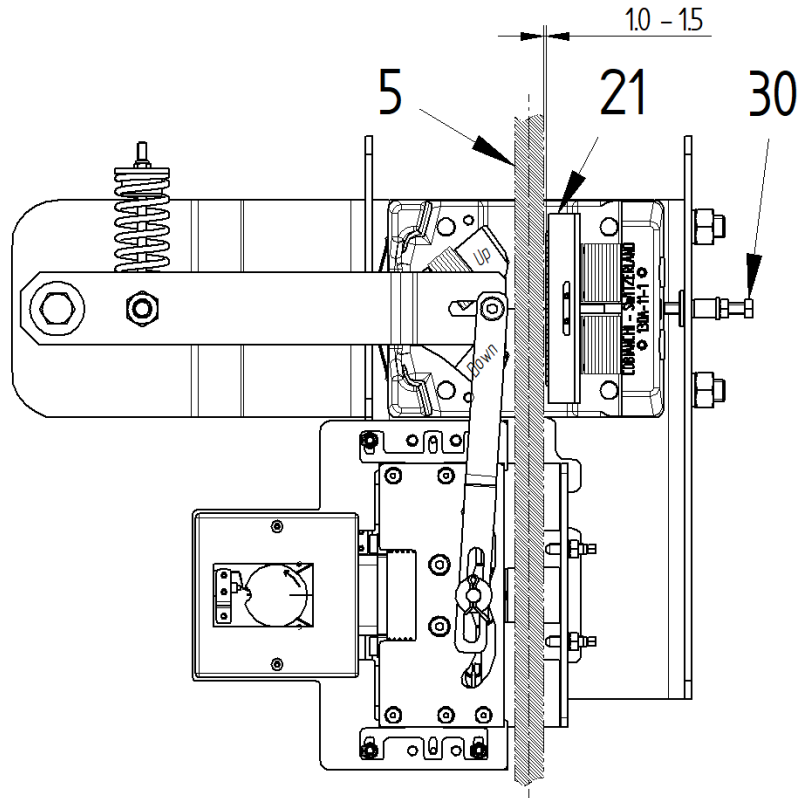

Figure 17: Side position adjustment using the adjustment screw (item 30): easy release mechanism (item 21) – guide rail (item 5) 1.0 – 1.5 mm
To ensure that the gaps between the move-in tothing on the brake elements on the safety gear heads and the guide rail (item 5) on the double-acting safety gear can be set identically at the top and the bottom (to prevent unwanted release), we recommend undoing both M12 screws from the retaining plates for lever (item 27) and, in the next step, undoing the adjustment screw (item 30) until the top move-in tothing and bottom move-in tothing are positioned on the guide rail (item 5) according to figure 12 and then re-tightening both M12 screws on the retaining plates for lever (item 27). If the required result cannot be obtained using this procedure, both headless screws in the torsion spring system (item 13) must also be undone, aligned and re-tightened. The re-adjust the air gap (1.0 – 1.5 mm) in accordance with figure 17.